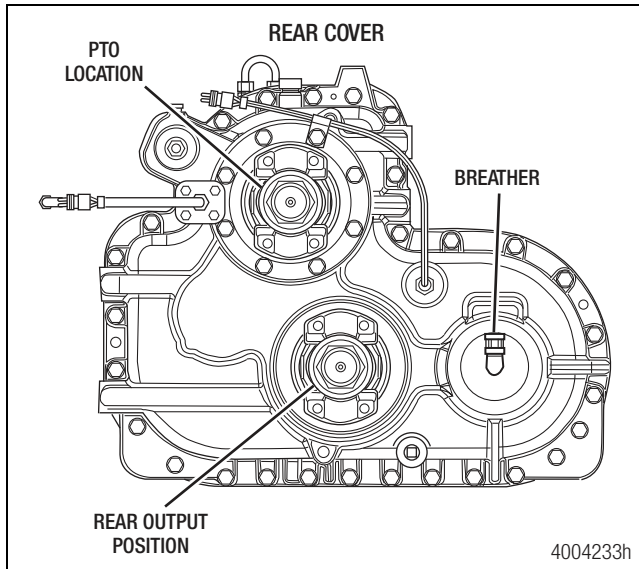

Figure 8.7
1. Connect a regulated air pressure line to the air transfer case breather. Figure 8.7.